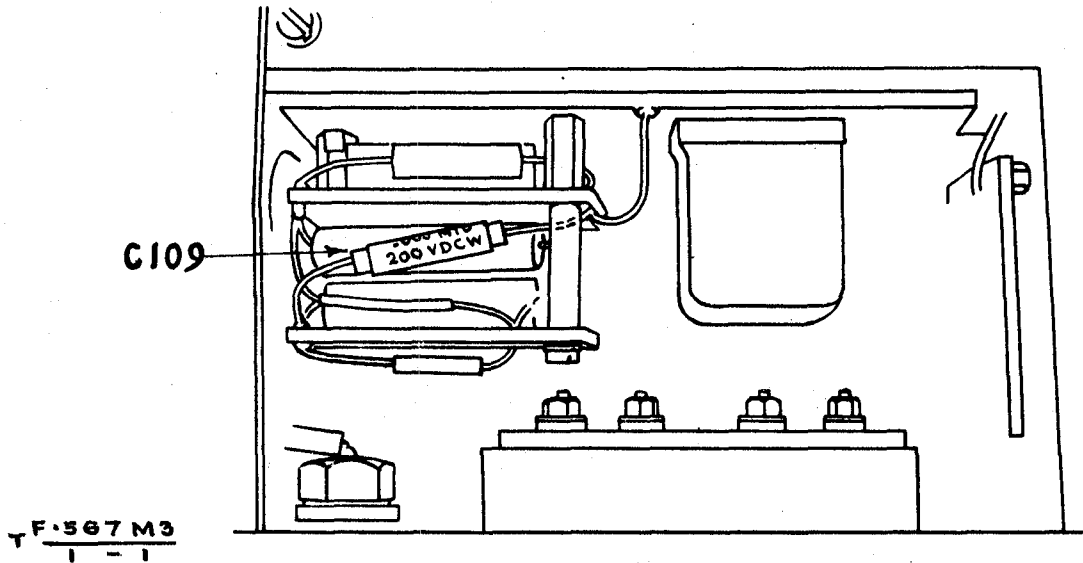

Fig 1 - Location of C109
- (b) Locate capacitor C109 (0.001 μ F) (see Fig 1).